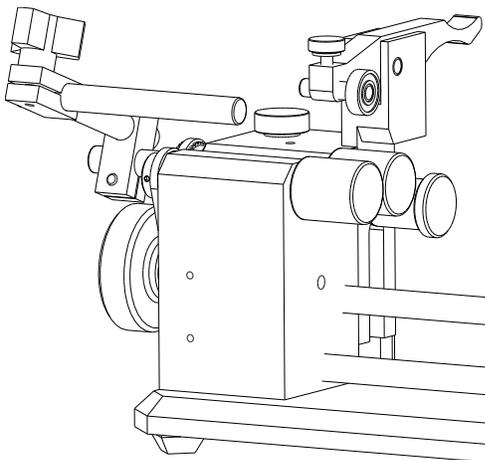

Figure 16. Back Stop Assembly
10.0 Back Stop Set-up – (See Figures 16 and 17)